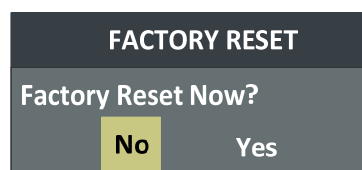

Figure 4.1-5 Reset Menu List
- Press and hold the **MUTE+ENTER** button for 3s can reset the menu settings to factory originals, as shown in Figure 4.1-5.